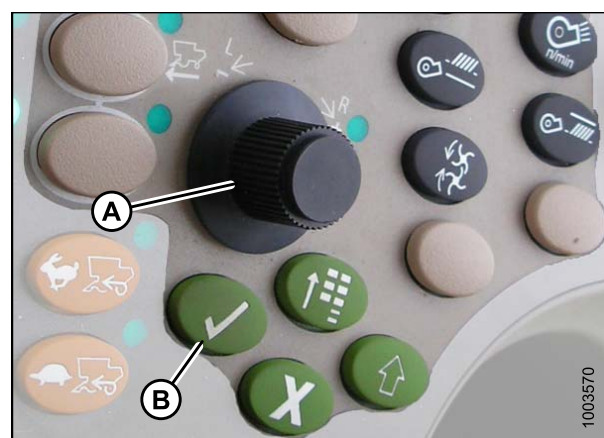

Figure 7.97: John Deere Combine Control Console
7. Select HEADER in box (A) by scrolling down to the box using the scroll knob, and then pressing the check mark button (knob and button are shown in Figure 7.97: John Deere Combine Control Console, page 195).
8. Scroll down to the lower right icon that resembles an arrow in a diamond (B) and press the check mark button to select it.